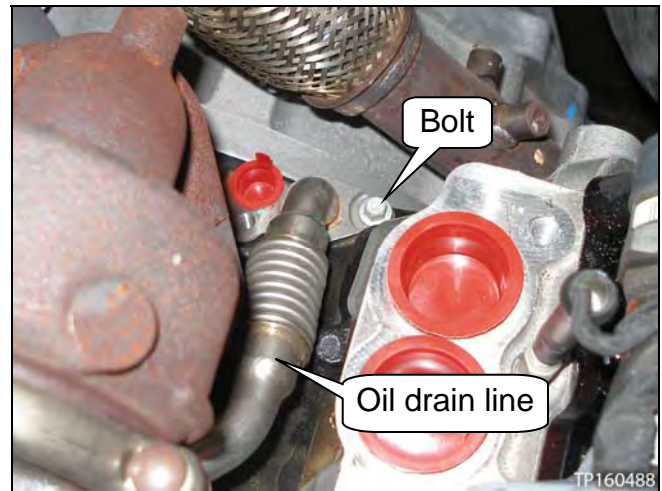

Figure 51
40. Unfasten the oil drain line bolt (see Figure 51).